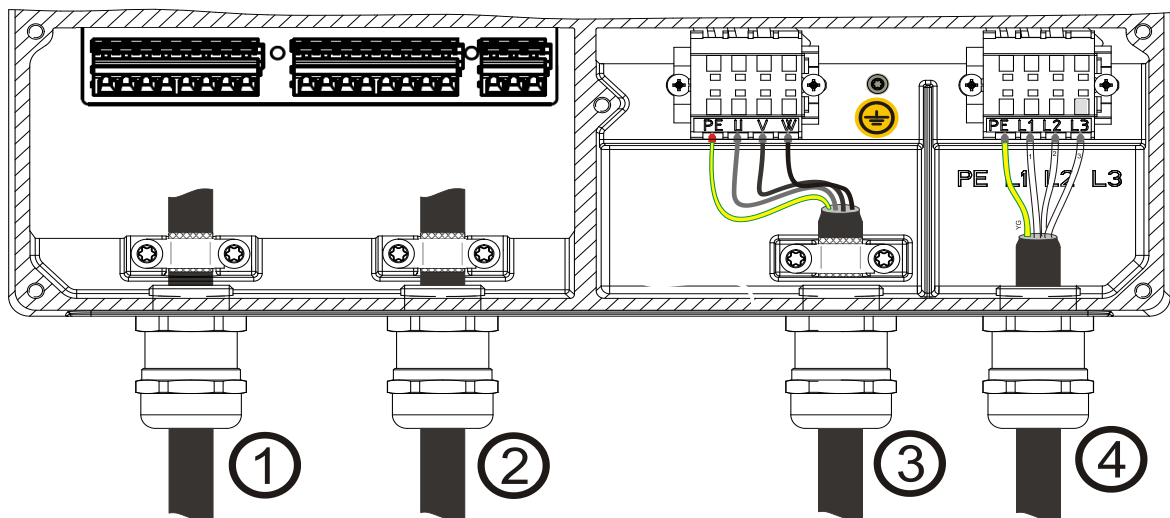

Fig.4: Proper wire connection to the motor and mains terminals.
- c) Remove the sealing insert for sealing cable gland No1 and insert the communication cable. Mount the cable and carefully (fig. 4) connect desired user interface terminals. Screw the cable gland for optimum IP protection.
- (1) PE ; (2) L1 ; (3) L2; (4) L3 ;